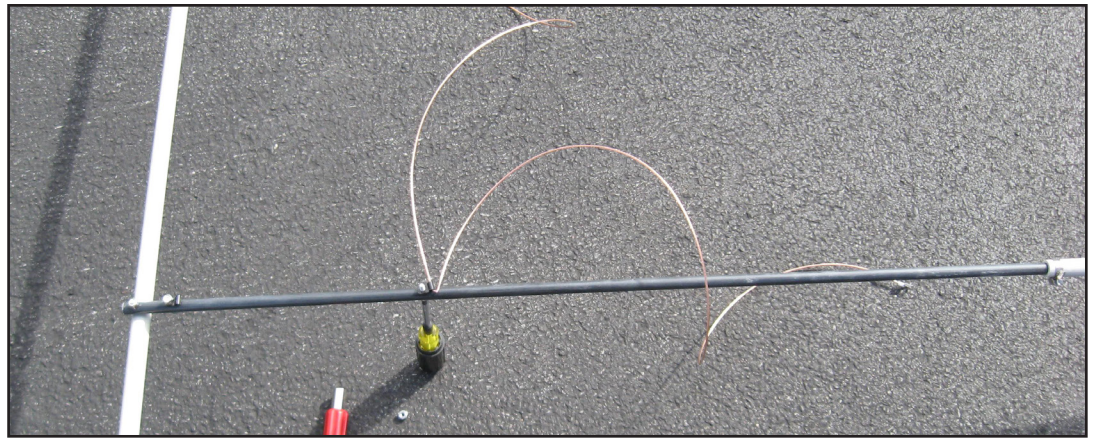
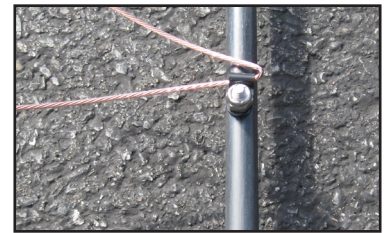

Fig. 71
Fig. 72
**At the Reflector End of the antenna**, temporarily remove the 10-24 SS Anti-vibration Hexnut and Black Cable Clamp, then insert the wire as shown in Fig. 71. Replace the Black Cable Clamp with wire and the Hex Nut on the Machine Screw and tighten well. Position the Black Cable Clamp as shown in Fig. 72.